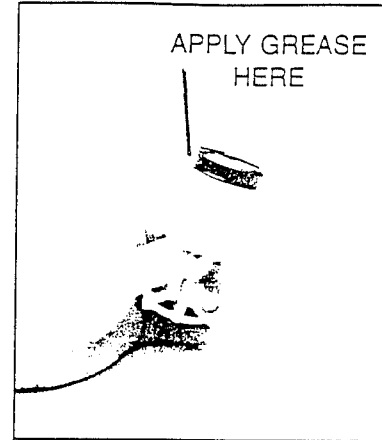
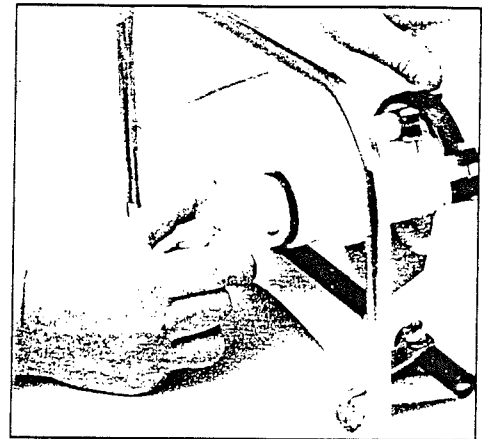

Figure 11
Figure 12
- 9) Apply a non-water soluble grease (petroleum jelly works well) around the outside edge of the Viton® collar before installing the piston into the pump cylinder. (See Figure 11). Carefully insert piston into the pump cylinder. (See Figure 12). Re-connect the lever to the pump rod.